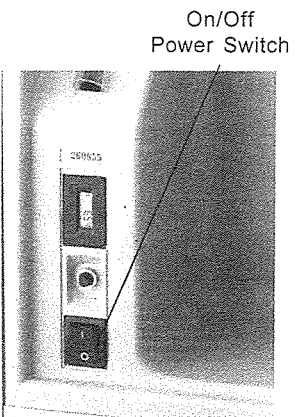

Figure 2
7. Locate the power switch on the front of the unit, and switch it to the I position (on). **(Figure 2.)**